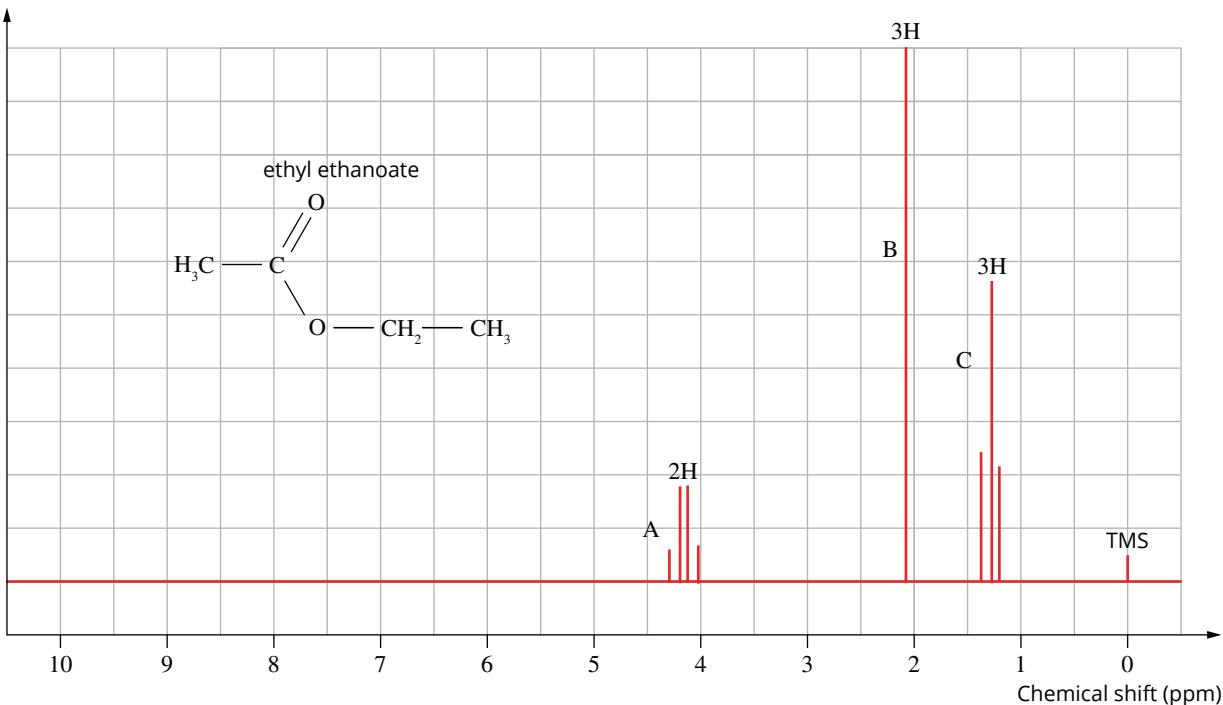

FIGURE 12.2.12 Proton NMR spectrum of ethyl ethanoate.
- 4** Ethyl ethanoate is a solvent commonly used in nail varnish remover. The proton NMR spectrum and semistructural formula of ethyl ethanoate are shown in Figure 12.2.12.